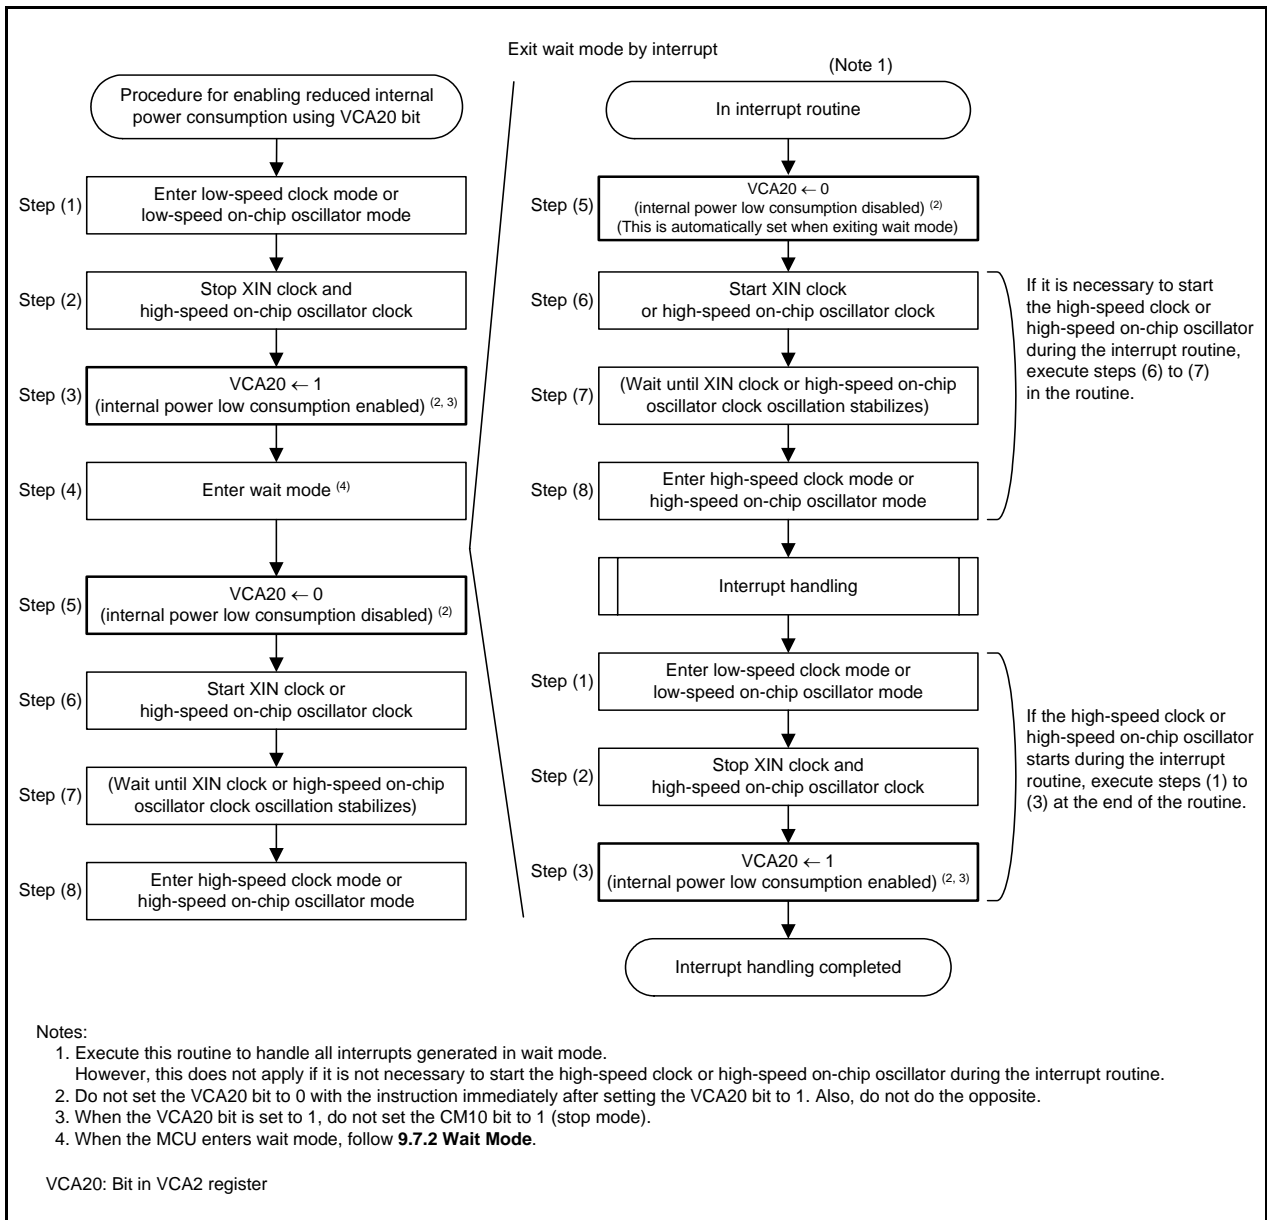

Figure 9.3 Procedure for Reducing Internal Power Consumption Using VCA20 bit
- Use the VCA20 bit only when the MCU enters wait mode. To set the VCA20 bit, follow the procedure shown in **Figure 9.3 Procedure for Reducing Internal Power Consumption Using VCA20 bit**.